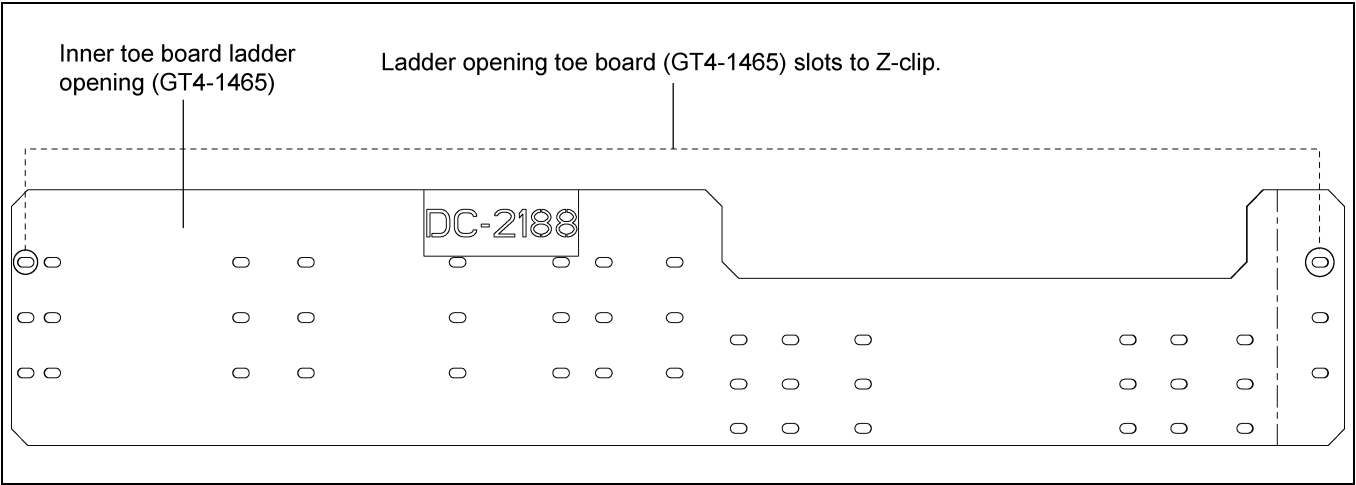

Figure 4H 12' Ladder Opening Toe Board (GT4-1465)
2. At the ladder location, install the ladder opening toe board (GT4-1465) to Z-clips using 3/8"-16 x 1" YDP grade 8 or grade 8.2 bolts (S-7927) and 3/8"-16 ZN grade 5 nuts (S-968) in such a way that toe board opening falls on the ladder path. *(See Figure 4G below and Figure 4H on Page 14.)*